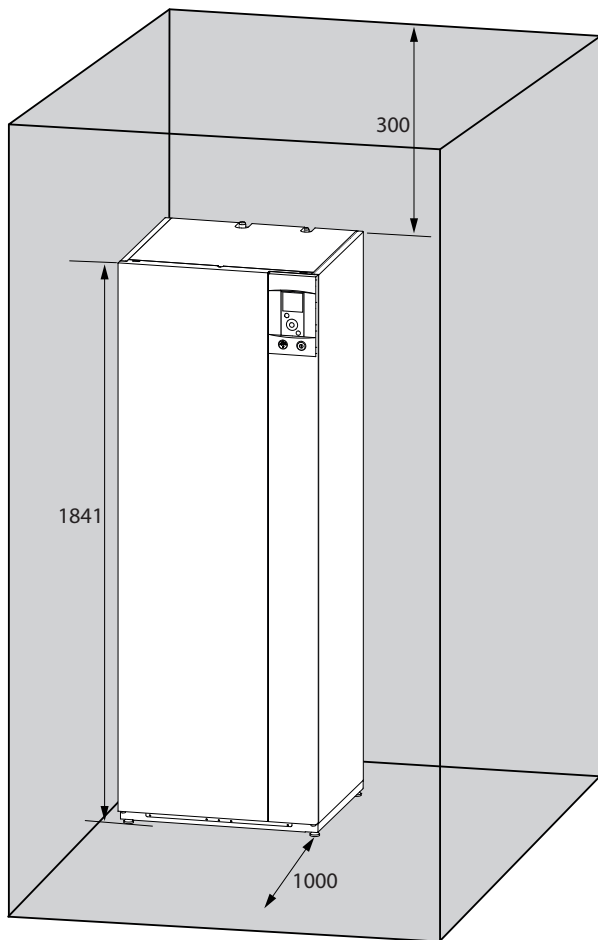

fig. 15 - Minimum installation clearances around the hydraulic unit and distances away from fuel storage areas
- To facilitate maintenance and to allow access to the various components, we recommend that you provide sufficient space all around the hydraulic unit (fig. 15).